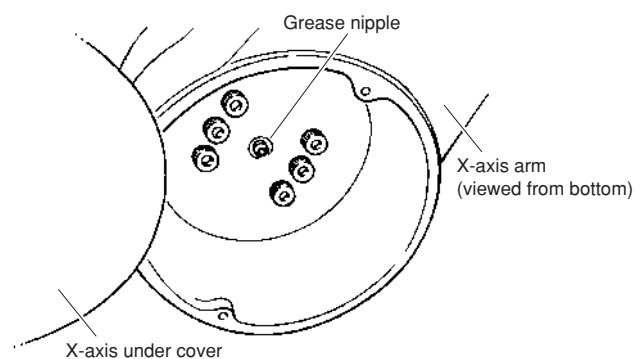

Fig. 5-30
- 8) Using the grease gun, pump the specified grease into the grease nipple located on the bottom of the X-axis arm. (See Fig. 5-30.)